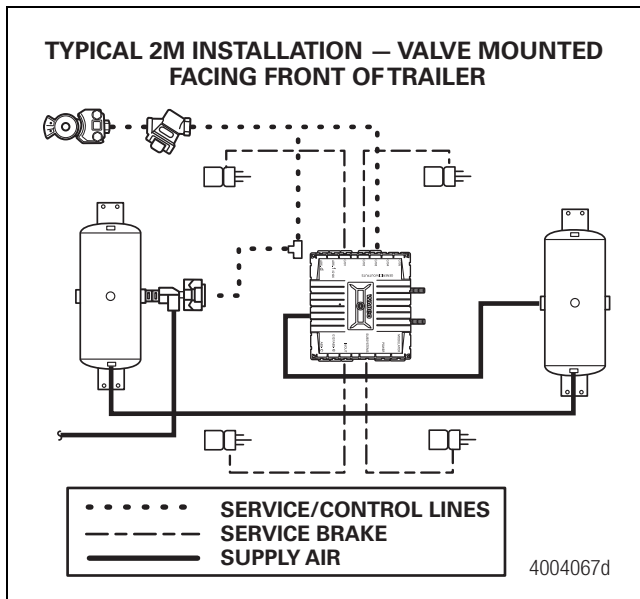
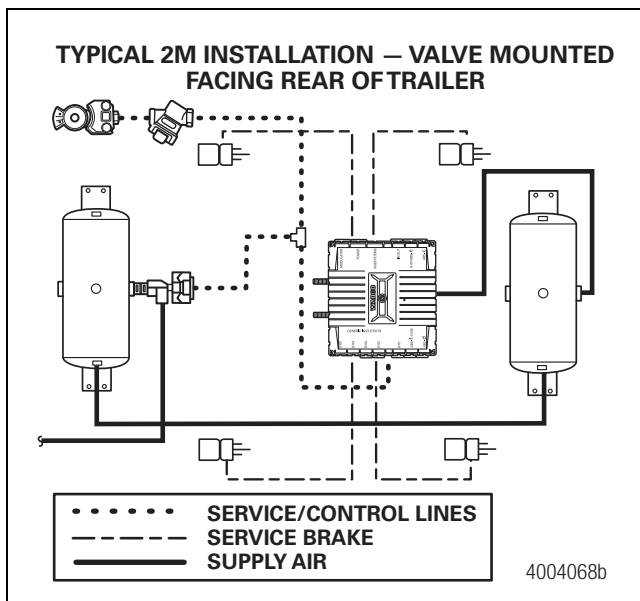

Figure 7
Figure 8
3. Connect the air delivery lines to the appropriate brake chambers, 3/8-inch NPTF. Refer to Figure 7 for valves mounted with sensors facing the front of the trailer and Figure 8 for valves mounted with sensors facing the rear of the trailer.